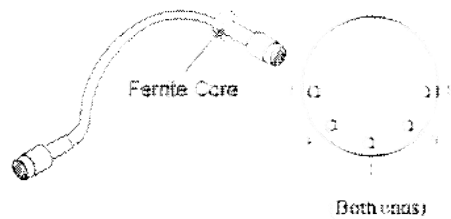

Figure 17. DIN Power Cable
6. Connect DIN cables (Figure 17) according to chart in Table 17. Ferrite core end must attach to EDAC.
It is also possible to wall mount multiple EDAC units and power supplies using the Power Distribution Module (P/N 500-1102-002). No minimum or maximum spacing between EDACs is required. Using Figures 17 and 18 and Table 17 as guides, install as follows.
2. Connect DIN cables (P/N 450-1102-001) from module outputs to EDAC units as needed. The ferrite core end must connect to the EDAC (see Figure 17).